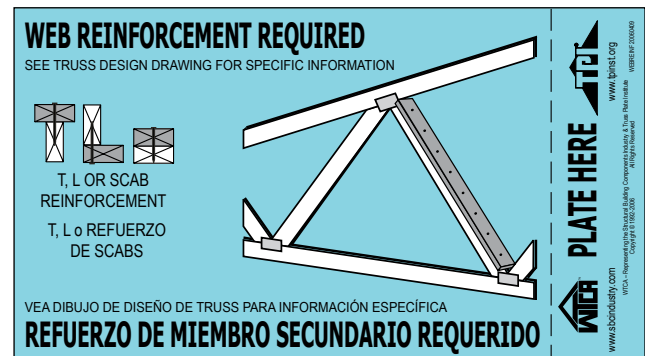

FIGURE B3-24
- ✓ Some Truss Manufacturers provide additional assistance by marking the web members that require permanent reinforcement. An example of one such supplemental marking is the Truss tag shown in Figure B3-24.